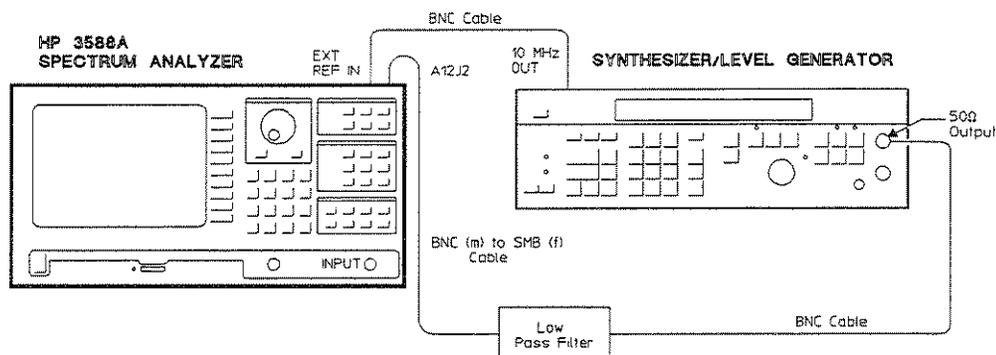

Figure 5-22. Troubleshooting Input Harmonic Distortion
2. Connect the test equipment as shown in figure 5-22.